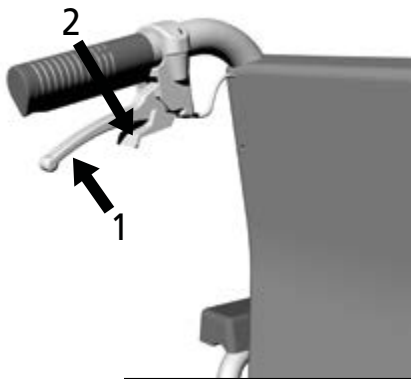

Fig.14
Pull evenly on both brake levers (1, Fig. 14).
1. Pull on both brake levers (1, Fig. 14).
2. Push the safety catch away from yourself until it engages (2, Fig. 14). The drum brake is now locked.